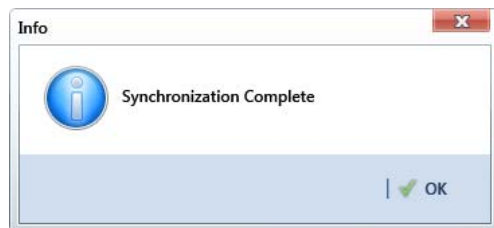

Figure 15-10. Synchronization Complete
- 2 Click  **OK** when the message *Synchronization Complete* displays to complete the process (Figure 15-10).